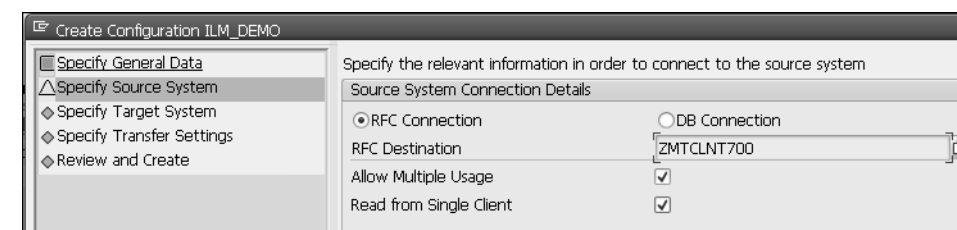

Figure 8.5 Creating a Configuration: Specifying the Source System (RFC Connection)
5. If the legacy system is an SAP system, select the **RFC Connection** radio button, and enter the name of the RFC connection in the **RFC Destination** field (see Figure 8.5).